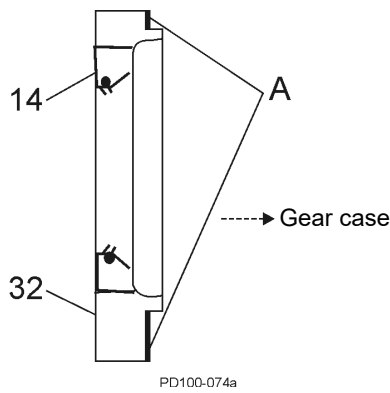

Figure 212 - Install Bearing Retainer
18. Coat the retainer flanges with silicone sealant (Figure 212, item A). (Gore-Tex® sealing tape can be used on silicone free models.) The grease seal (item 14) will be flush with the front of the bearing retainer. On 030 models, the grease seal will be against the step on the inside diameter of the retainer.
19. Install the bearing retainers (Figure 212, item 32).